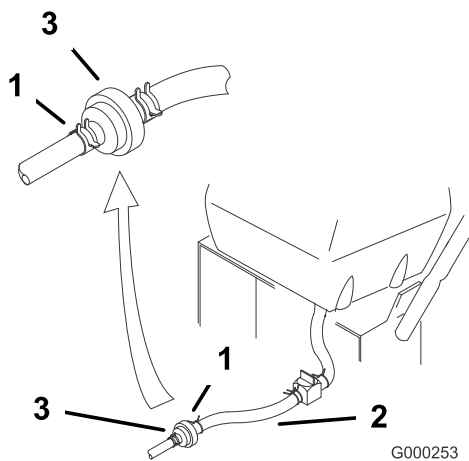

Figure 32
3. Squeeze the ends of the hose clamps together and slide them away from the filter (Figure 32).